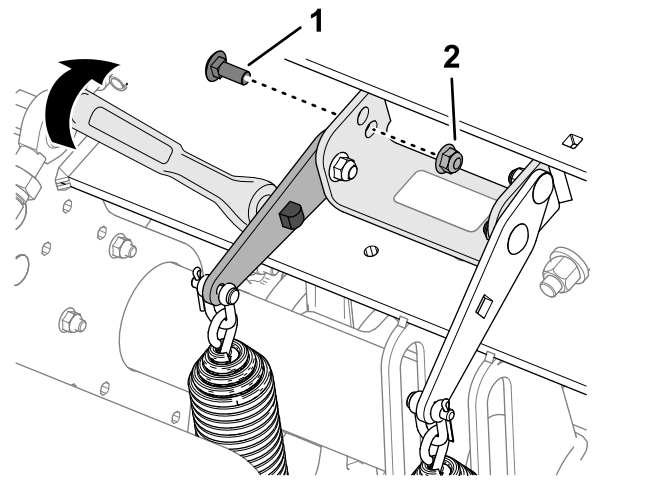

Figure 119
4. Insert a 1/2 inch-drive ratchet or breaker bar into the square hole in the spring-tension plate (Figure 119).